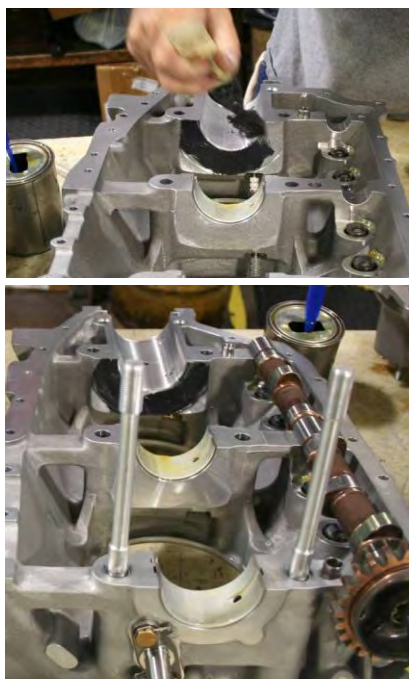

Figure 64
- (5) Refer to the latest revision of Service Instruction SI-1059 and apply the specified lubricant to the following:
- Thrust faces of each crankshaft half (Figure 64)